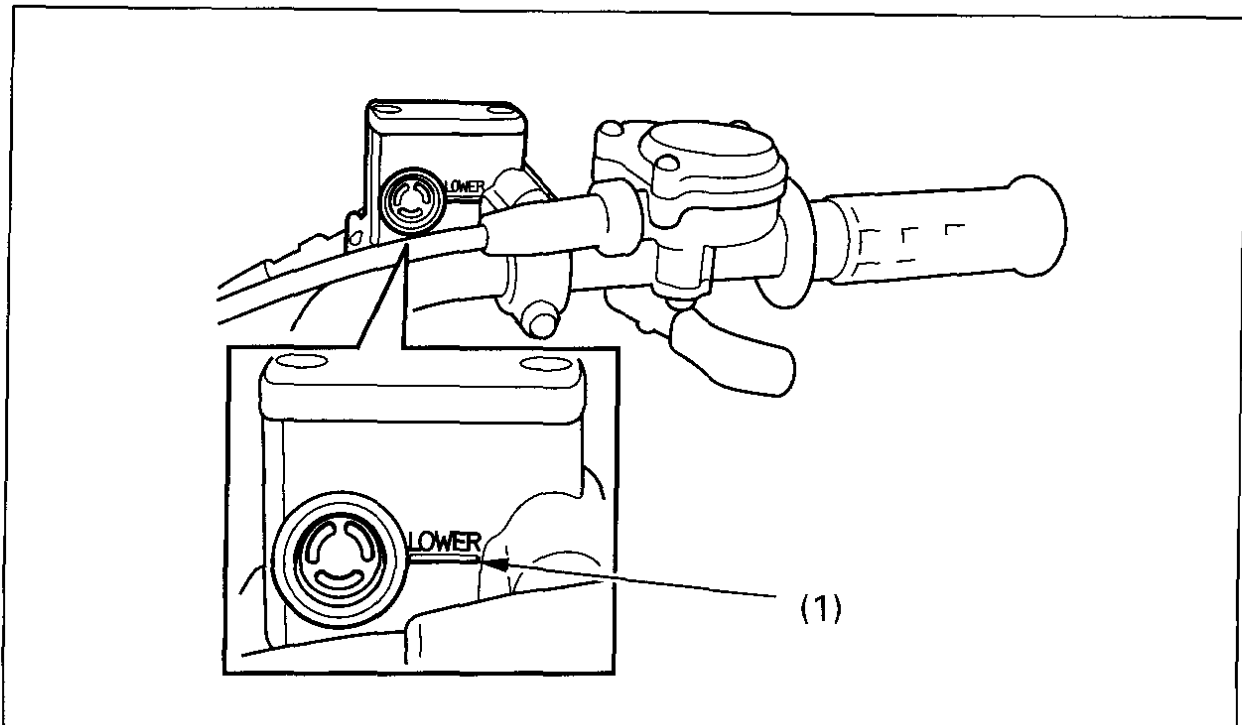

Fig. 4-27
Brake fluid must be added to the reservoir (Fig. 4-27) whenever the fluid level approaches the lower level mark (1). Use only DOT 3 or 4 brake fluid and have it added by an authorized Honda dealer.